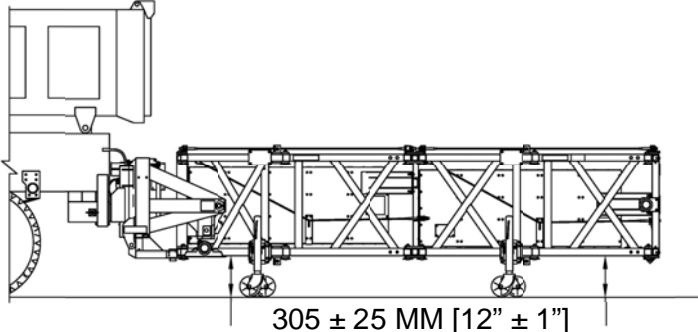
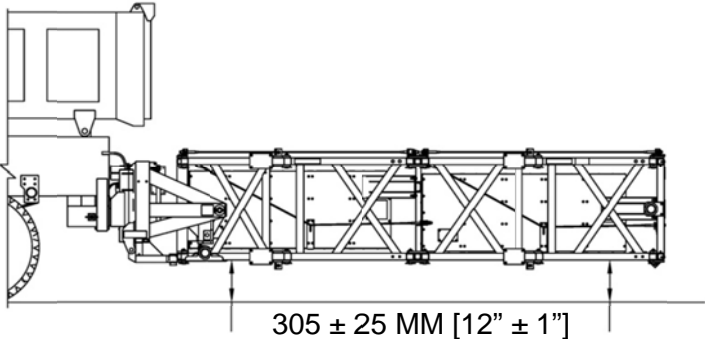

Figure 3
Figure 4
1. The TMA should be rigidly fastened to the truck. In the horizontal position, the bottom of the TMA should be 280 to 330 mm [11" to 13"] from the ground and level (see Figure 3). The TMA must be left in the down position whenever possible. The TMA can only absorb the energy of an impacting vehicle within NCHRP criteria in the down position.
2. Jacks may be used to support the TMA when it is off the truck (See Figure 3). The Jacks must be stored while the TMA is attached to the truck (See Figure 4).